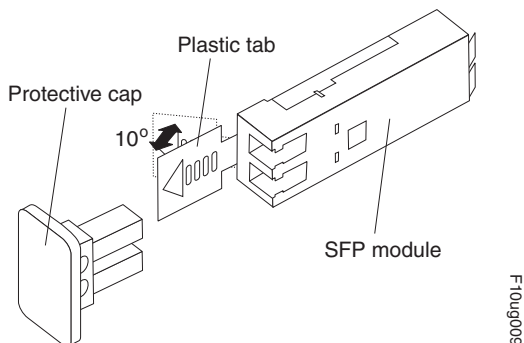

Figure 2. Unlocking the SFP module latch - plastic variety
- For SFP modules that contain plastic tabs, unlock the SFP module latch by pulling the plastic tab outward 10°, as shown in Figure 2.